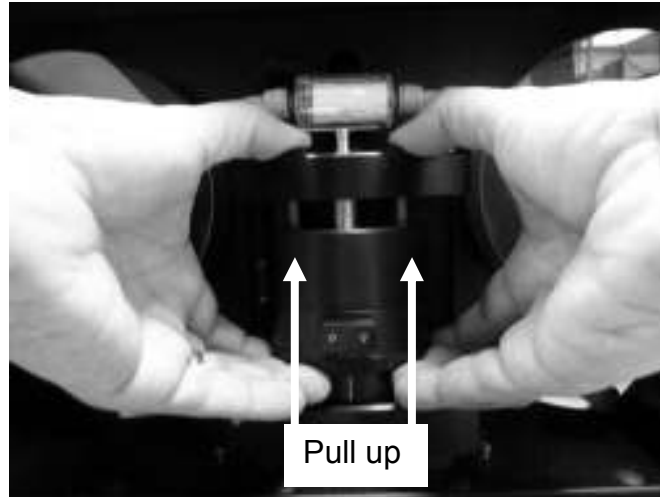

Figure 2
- 3.) Raise the optical head assembly by positioning your hands as seen in Figure 2. Pull the optical head assembly up off of the filter tape by squeezing your hands together.